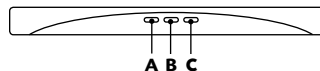

fig. 1
The control panel for the fridge has three lights (Fig. 1):
1. Open the water drain cover which is at the back of the freezer, as in figure 1.